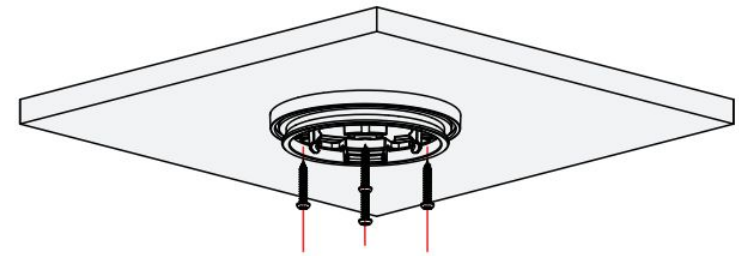

Figure 2-4
Step 4 Install the base to the mounting surface as shown by threading the installation screws through the base and expansion screws as shown in Figure 2-4.